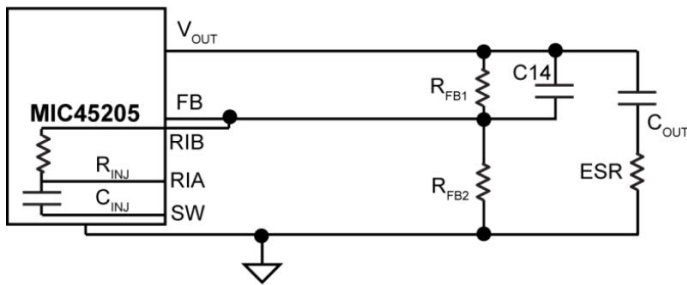

Figure 10. Internal Ripple Injection at FB via RIB Pin
2. Virtually no or inadequate ripple at the FB pin voltage due to the very-low ESR of the output capacitors, such is the case with ceramic output capacitor. In this case, the V_{FB} ripple waveform needs to be generated by injecting suitable signal. MIC45205 has provisions to enable an internal series RC injection network, R_{INJ} and C_{INJ} as shown in Figure 10 by connecting RIB to FB pin. This network injects a square-wave current waveform into FB pin, which by means of integration across the capacitor (C_{14}) generates an appropriate sawtooth FB ripple waveform.